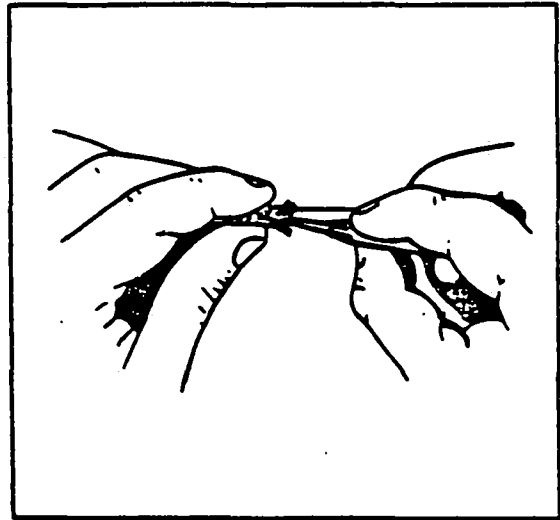

Figure 8-19. Unbraiding Metallic Shielding
9. Using a scribe or similar pointed tool, unbraid 3/8 inch of braided shielding. (Refer to Figure 8-19.) Wrap a single thickness of electrical tape around unbraided strands to facilitate insertion of lead end thru hole in cable